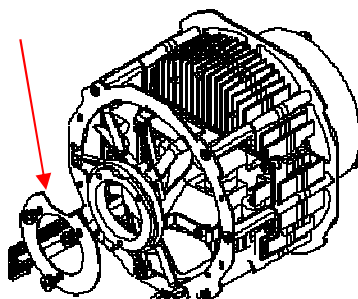

Fig.2
6. Place HPLLED II on working bench and start loosening the 3 M4 screws that hold the metal ring (marked by red arrow in figure 2).